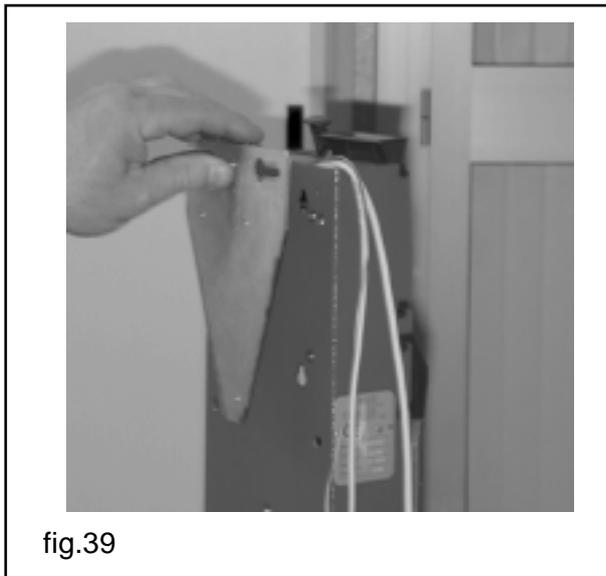

fig.39
- remove the support bracket from the machine (fig. 39)